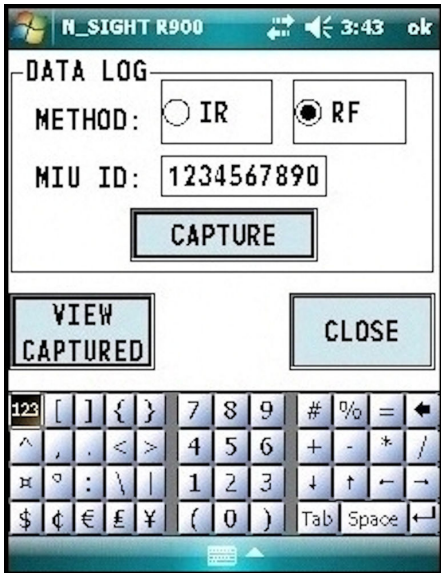

Figure 53 – Capture Button
4. After you type the L900 MIU ID, click **CAPTURE**. See Figure 53.